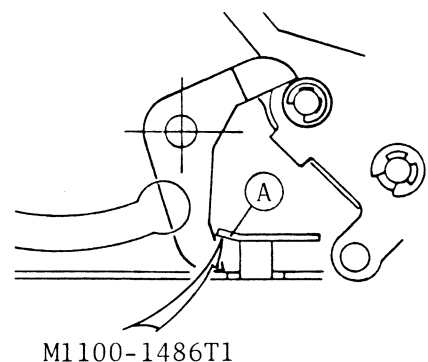

Fig.31
2. Make a little space between the winding safety arm and the body wall by bending the (A) part of the M1100-1486T1 winding stop slide. (Fig. 31)